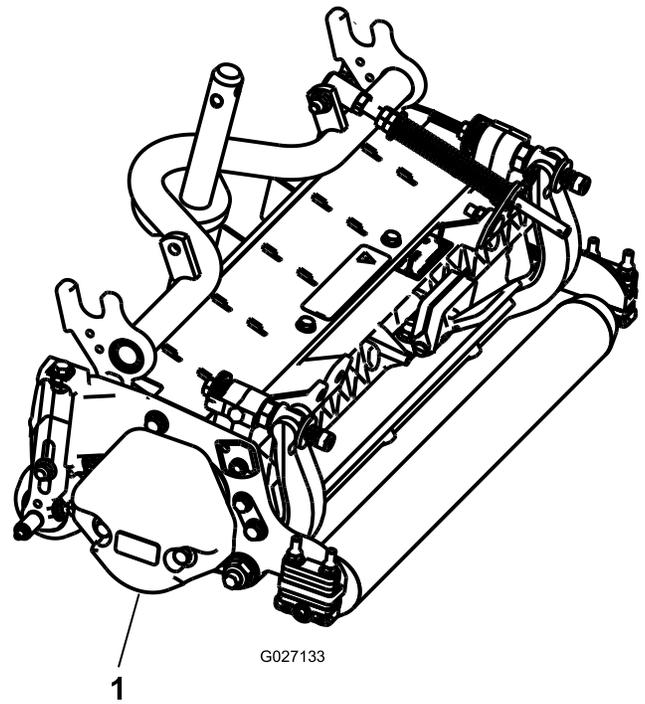

Figure 7
3. Make sure that the counterweight (Figure 7) is installed at the proper end of the cutting unit as described in the cutting unit *Operator's Manual*.